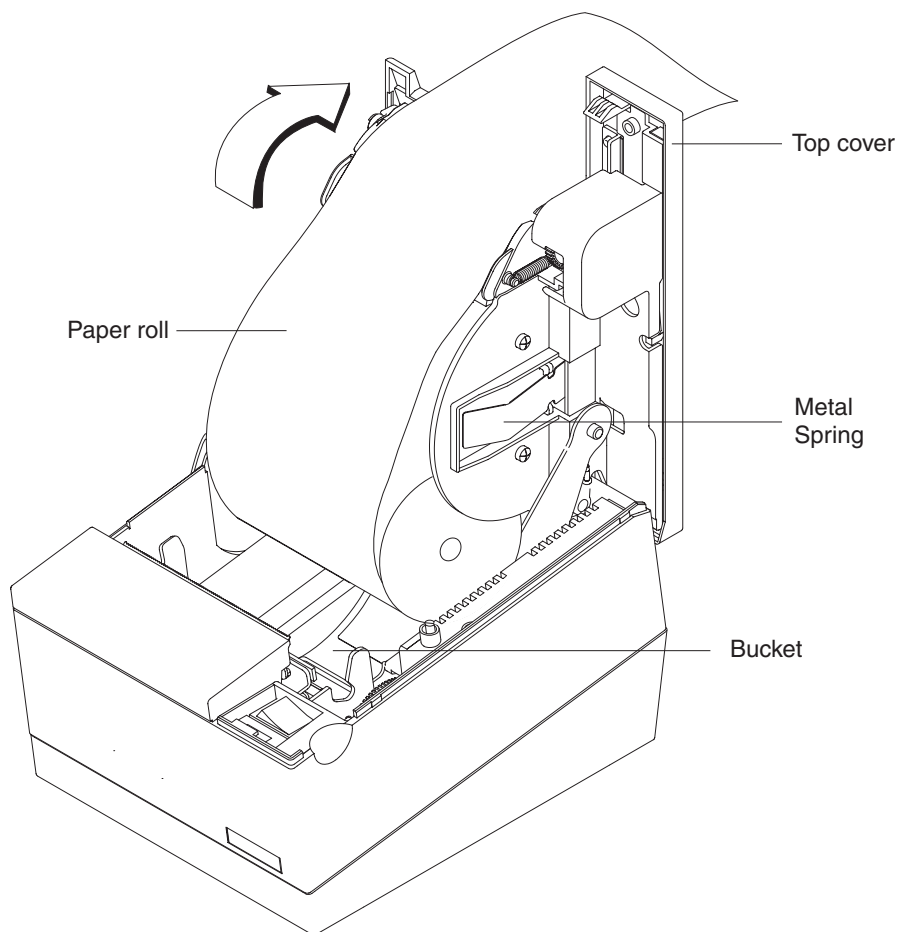

Figure 41. Paper loading path (Models TF6 and TM6)
3. Drop the roll into the bucket. The leading edge of the paper should come from the direction of the back of the printer and go across the bottom of the roll as shown in the diagram. See Figure 41 on page 72.